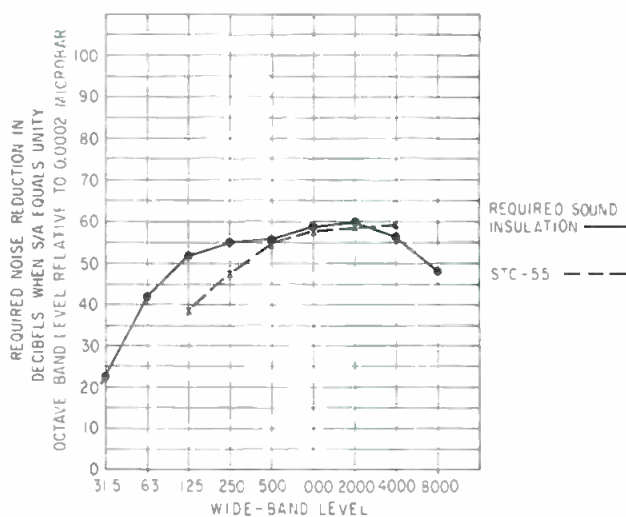

Figure 3. Required sound-insulation characteristic of studio boundaries, graphically determined from the noise level displayed in Figure 2.
The difference between curves (A) and (B), shown on FIGURE 3 constitutes the required sound insulation characteristic of the studio's external boundaries under the restriction that S/A, the ratio of the boundary surface to sound-absorption in the studio, is unity (a frequently-met condition in such structures) and that all boundaries are exposed to the same noise level.
Because the 500 hertz noise-reduction necessary for the walls and roof of such a building comes to 55 dB, the less knowledgeable architects and designers are tempted to specify a sound insulation rating of STC-55 (Sound-Transmission Class 55) for the boundaries. However, as drawn in on FIGURE 3 with a dotted line, such a sound attenuation would be inadequate for these space-dividers. Of course, the ASTM (American Society for Testing and Materials) notes in its standard E413-70T) that excluded from the scope of this classification system are the exterior walls of buildings, whose noise problems are most likely to involve motor vehicles or aircraft.
Accordingly, a monolithic barrier, to exhibit a sound-transmission loss of 55 dB at 500 hertz (as called for by the curve shown on FIGURE 3), would have to have a surface density of 160 lbs./sq. ft. Since this represents a concrete wall more than 12 inches thick, recourse is taken to double barriers. A discussion of the sound-insulation of double walls will be found in the author's book *Acoustic Design and Noise Control*, available through the office of db.